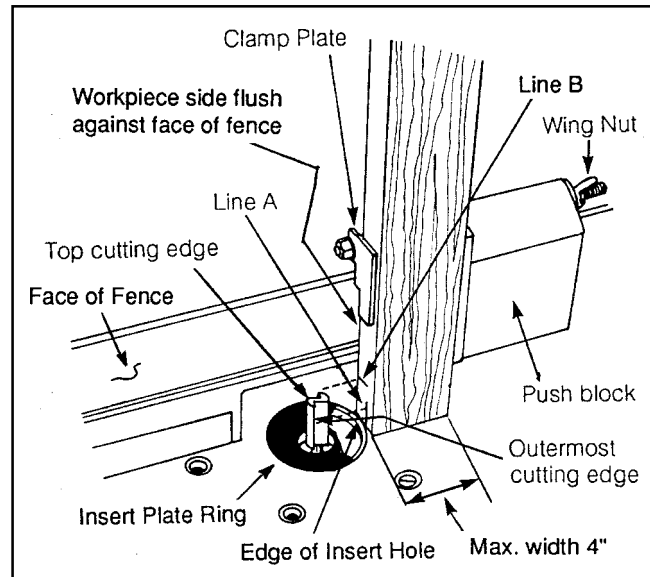

fig. Z.2
4. Position workpiece between **Clamp Plate** and **Push Block** so that it's side is flush against the face of the **Back Fence**, the end to be cut is resting on the edge of the insert plate hole and edge marked with lines 'A' and 'B' is facing the router cutter. Clamp workpiece in this position by tightening the **Wing Nut** on the **Clamp Rod** while making sure that **Clamp Plate** stays orientated on workpiece. See fig.Z.2.